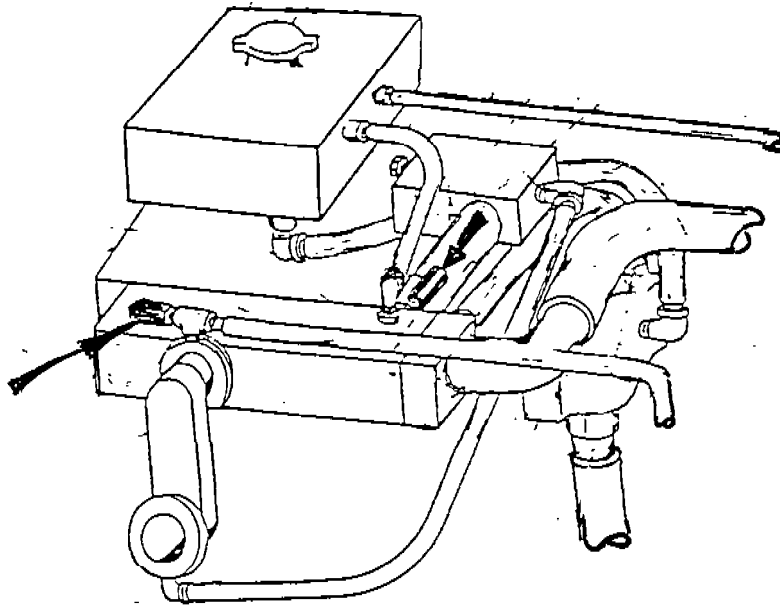

Figure 16. Location of High Coolant Temperature Sensors,
30. () The safety system includes two high coolant temperature shutdown sensors. One in the exhaust pipe outlet and one in the exhaust manifold as shown in Figure 16.